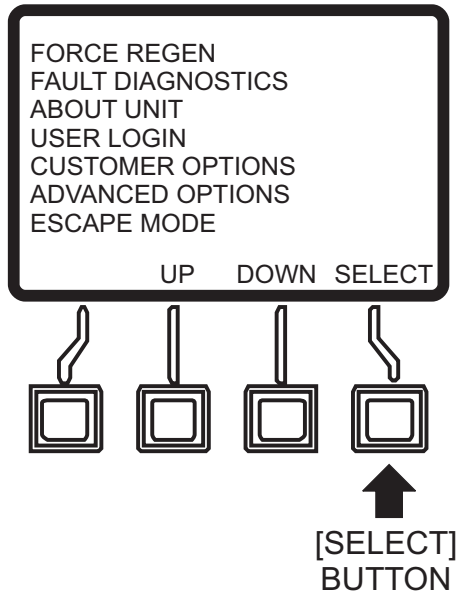

Figure 96. Escape Mode (Select Button)
- Press the **[SELECT]** button (Figure 96) to enter the "Escape Mode" menu.